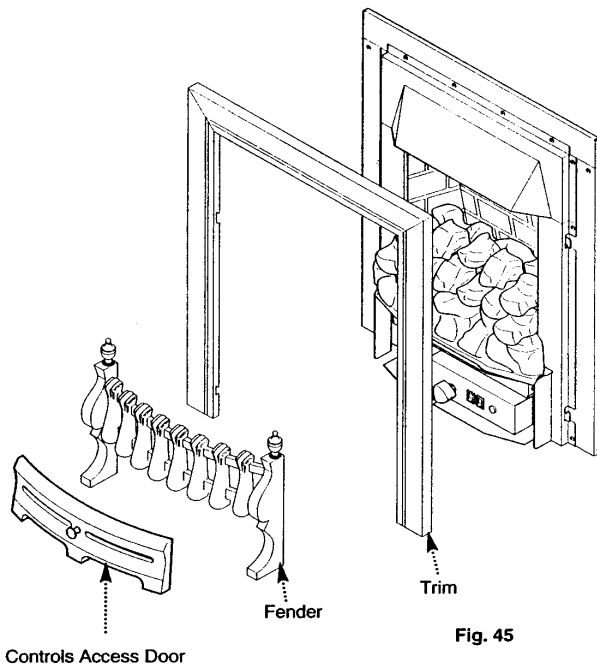

Fig. 45
9.1 Fitting the Trim and Fender (Fig. 45)